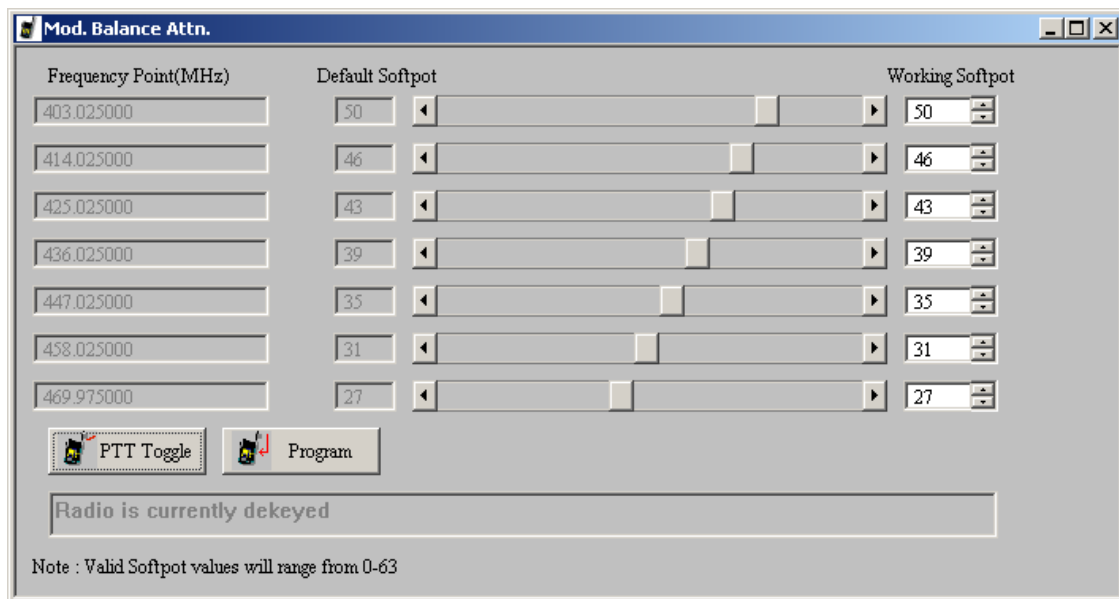

Figure 4-4. Modulation Balance Window
1. Under the **Tx Align** menu, select **Mod Balance Attn** (Figure 4-4).